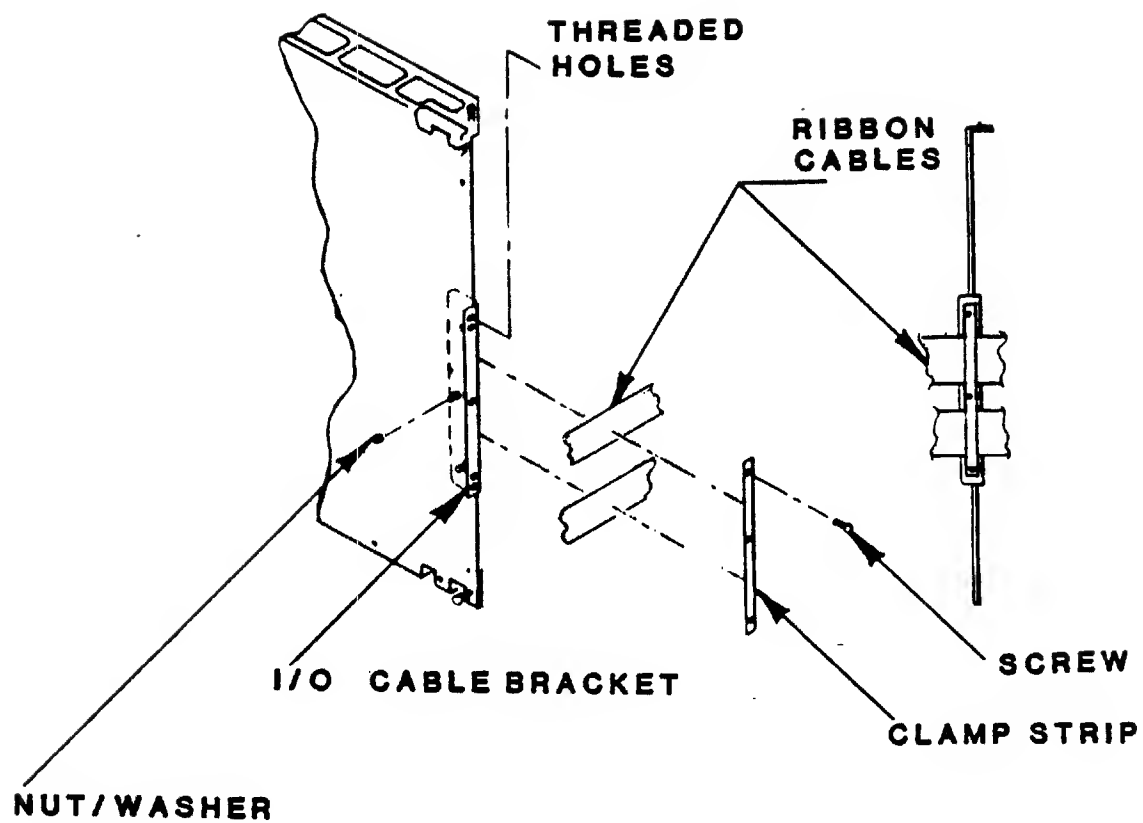

Figure 3-25. I/O Ribbon Cable Installation
5. Mount the I/O cable bracket to the logic cage. See Figure 3-25. Secure the I/O cable bracket with 3 nuts with washers. See Figure 3-25.
7. Place the ribbon cables against the logic cage bracket. See Figure 3-25. Place the clamp strip over the cables and secure the clamp strip to the cable bracket with 3 screws and washers. See Figure 3-25. Be sure the clamp strip and the cable bracket make good contact against the ground shield of the ribbon cables. The top and bottom threaded holes in the cable bracket provide additional grounding points, as required. See Figure 3-25.